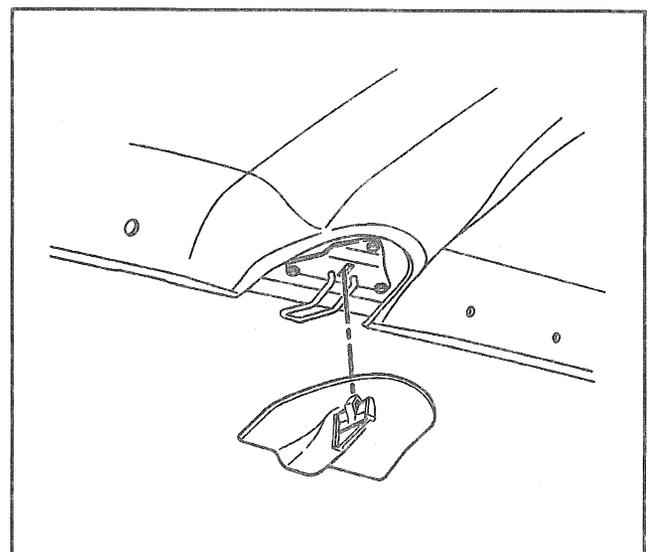

Figure 41—Latch Striker Cover.
**Remove or Disconnect (Figures 41 and 42)**
1. Latch striker cover (Figure 41).
**Install or Connect (Figures 41 and 42)**
2. Latch striker cover (Figure 41).